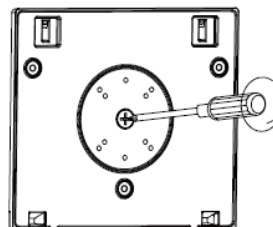

Fig. 1.3
3. Use a screwdriver to remove the plug (Fig. 1.3).